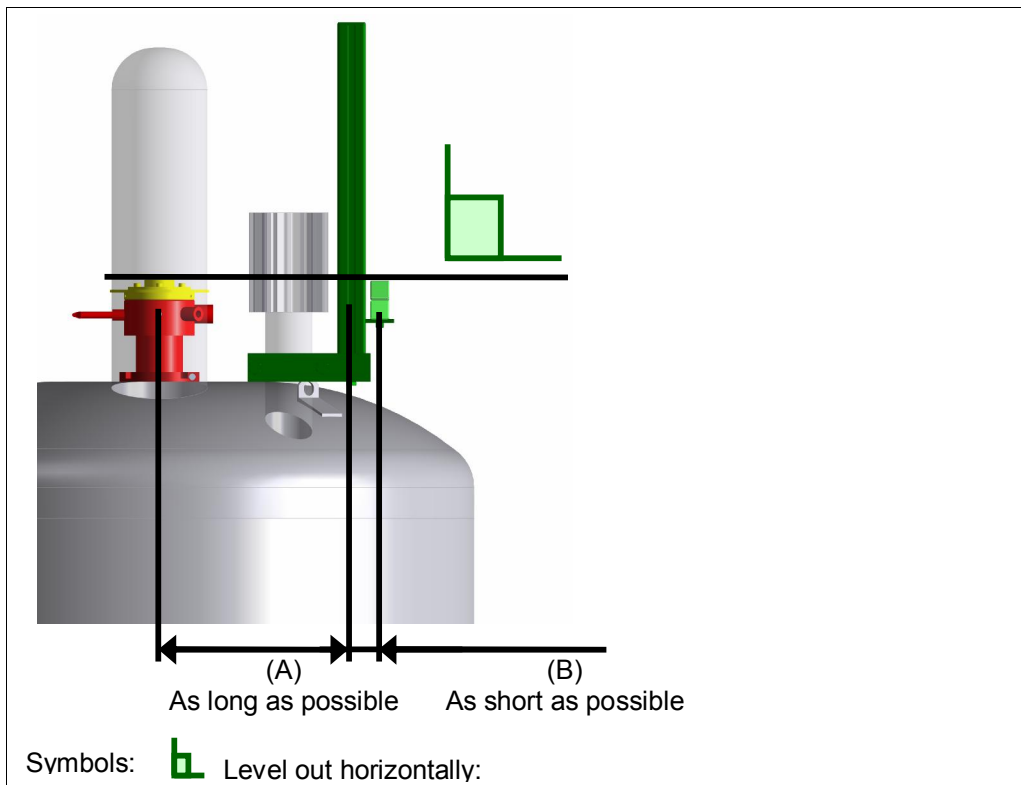

Figure 1.15: Adjust the height of THE LINEAR AXIS MOUNTING UNIT N₂ NOZZLE SIDE
- Use any cord, tube or cable to measure the circumference of the magnet. Calculate the Track Length (D) according to the figure 1.15.